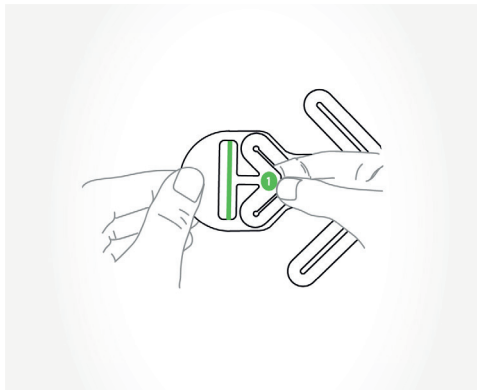

Figure 14: How to hold point 1 when 5 applying the DeltaScan Patch.
- Hold point 1 of the DeltaScan Patch between thumb and index finger. Remove the liner from the back of point 1, as indicated in Figure 14.